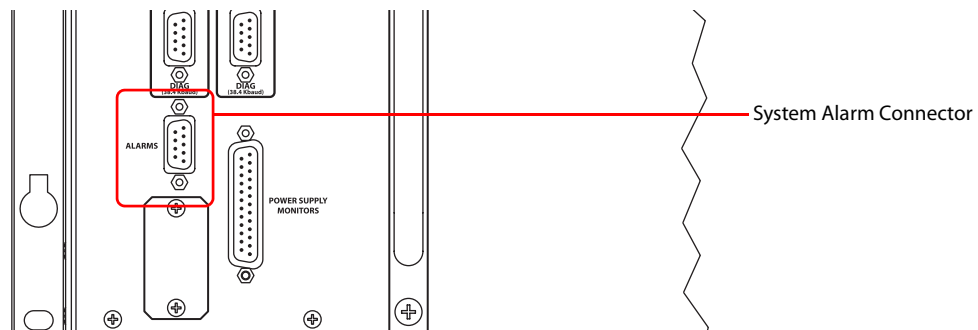

Figure 2-27. System Alarm Connection on Router (Rear View)
- 1 On the rear of the router, locate the 'ALARMS' connection, as shown in Figure 2-27.